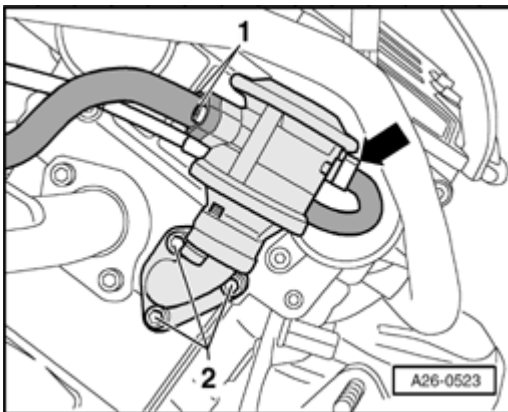

Fig. 631: Combination Valve For Secondary Air Injection (AIR)
- Component location. See **Fig. 631**